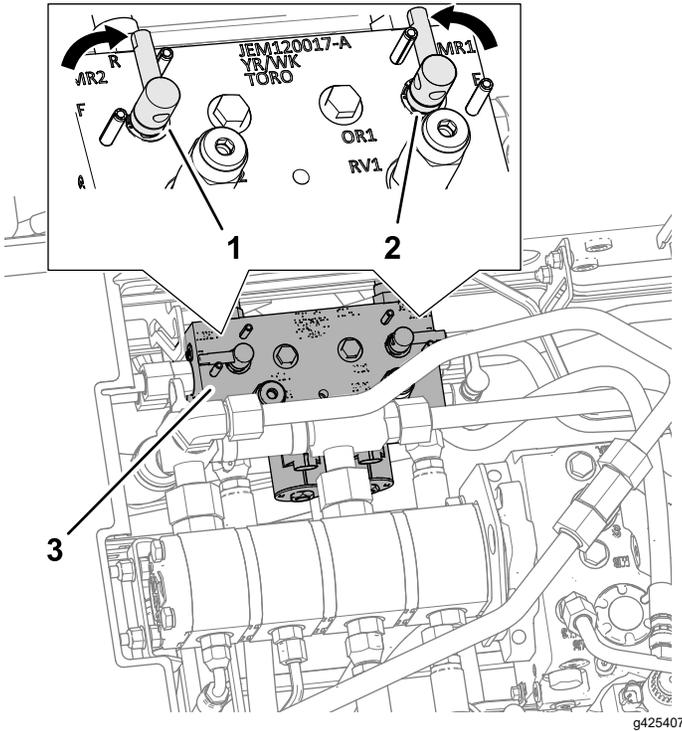

Figure 150
4. Unlock and raise the seat to expose the mower manifold (Figure 150).
5. Move the backlap levers to the R (backlap) position (Figure 150).